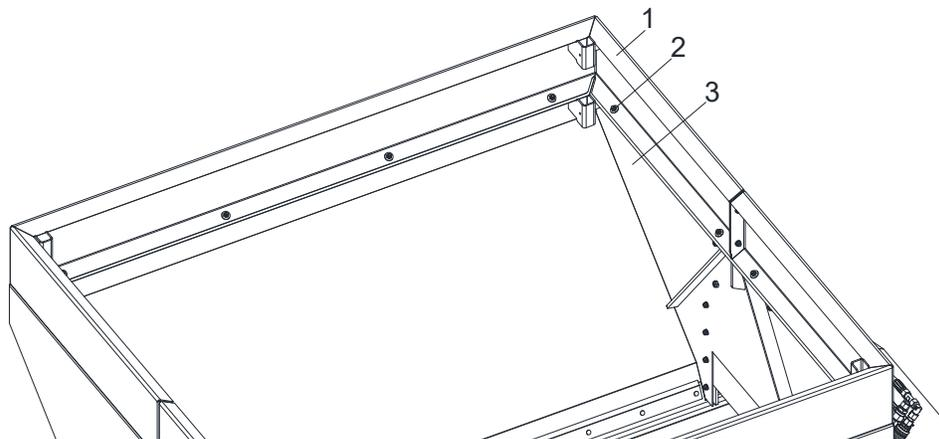

Fig. 16 Hopper extension kit
The optional extension kit (Fig. 16/1) is screwed to the top of the hopper (Fig. 16/3) with bolts, washers and nuts (Fig. 16/2). The extension kit increases the loading volume of the DS1600 disc spreader from 1.60m³ to 2.25m³.
8. connections on the hydraulic motor must be swapped. (Fig. 16/4).
9. Depending on the requirements and desired spreading direction, the cross conveyor belt can be shifted to the right and left as far as it will go by loosening the screws (Figure 16/8).